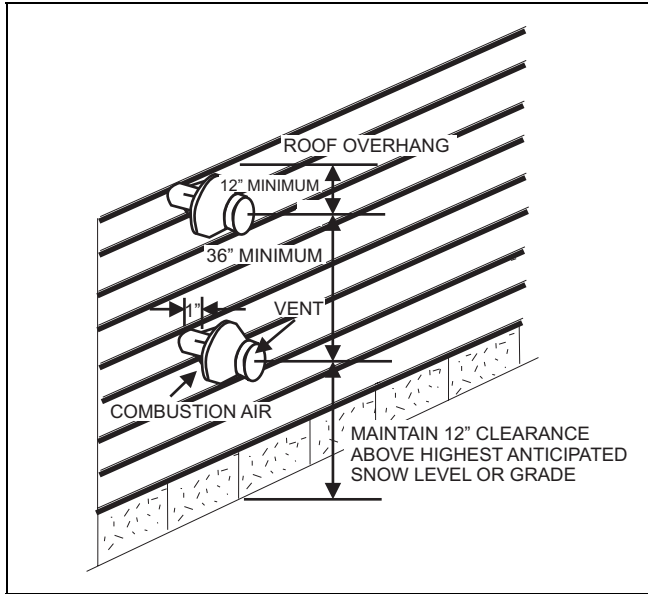

FIGURE 4 - Sidewall Termination for Multiple Vertical Concentric Vent
- If venting multiple units using multiple concentric vents, refer to Figures 4 & 6 for specific clearances.
NOTE: Maintain clearance dimensions as shown in Figure 4, 5, 6 & 7.